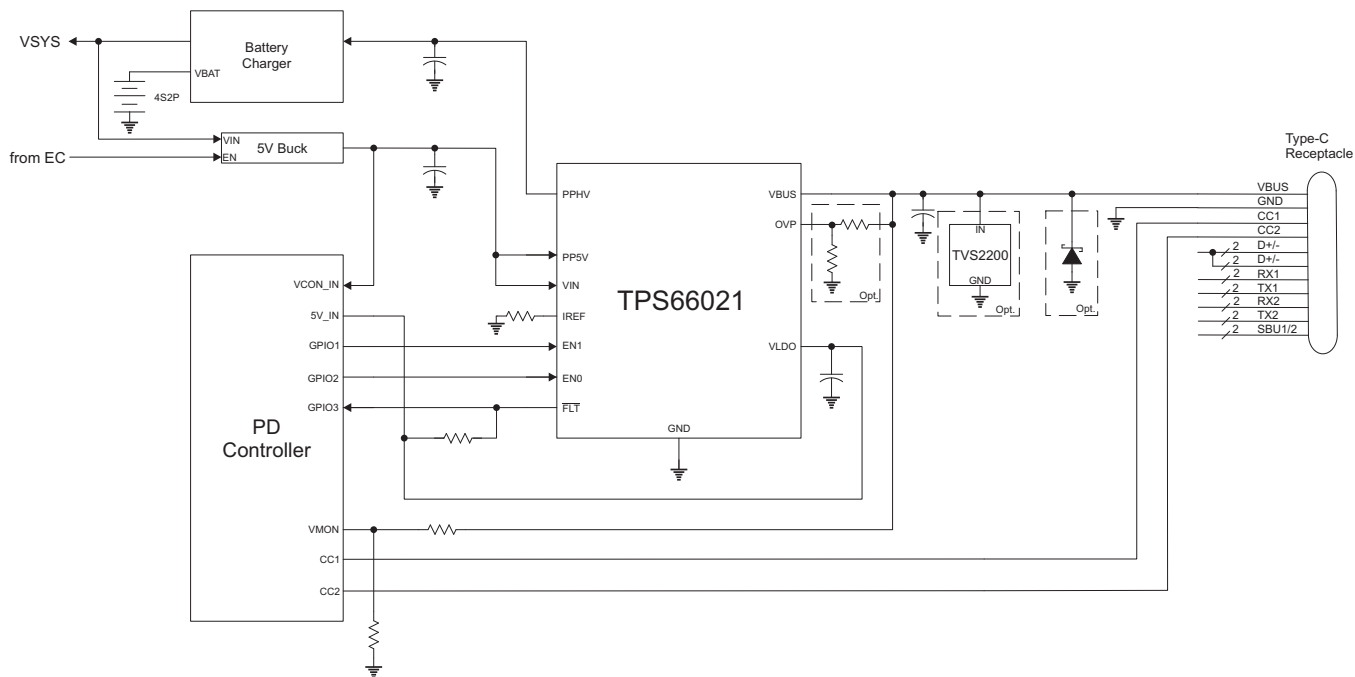
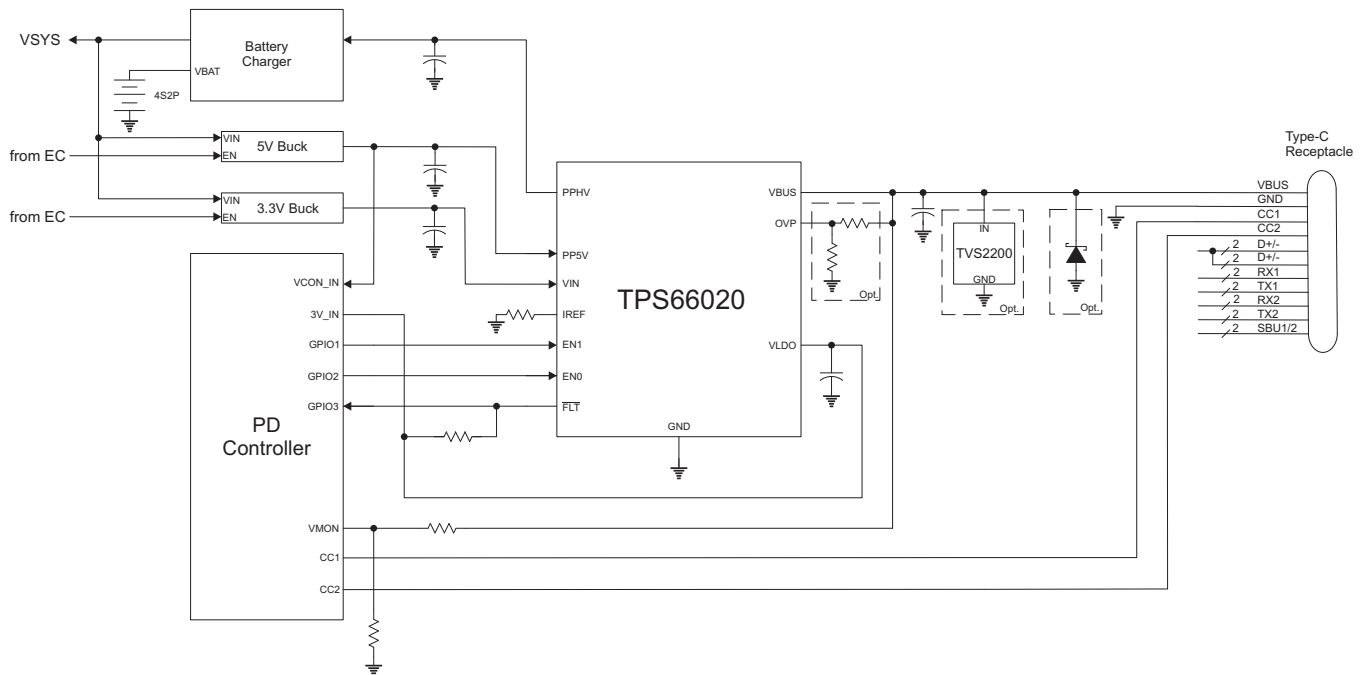

图 28. Single Port Type-C PD Port Using a Single 5-V Supply
图 29. Single Port Type-C PD Port Using a 3.3-V Supply
图 28 shows a USB Type-C single port design using a Power Delivery (PD) controller that supports 5-V operation. For this system, a single 5-V supply is used to supply power to the PP5V and VIN supplies of the TPS66021, as well as, the connector power, VCONN. The TPS66021 supplies power to the 5-V supply of the PD controller via its VLDO output which is sourced either from the integrated 5-V VBUS LDO for dead battery condition or from VIN once the dead battery condition ends.
Similarly, 图 29 shows a USB Type-C single port design using a PD controller that only supports 3.3-V operation. In this case, a separate 3.3-V supply in the system is used to supply power to the TPS66020. The TPS66020 supplies power to the 3.3-V supply of the PD controller via its VLDO output which is sourced either from the integrated 3.3-V VBUS LDO for dead battery condition or from VIN once the dead battery condition ends.
The PPHV power path is a Sink. The capacitance on the PPHV shown in 图 29 represents capacitance of the charger sub-system. In a typical application, this capacitance can be in the range of 47  $\mu\text{F}$  up to 100  $\mu\text{F}$ , far exceeding the 1- $\mu\text{F}$  minimum specification for the TPS6602x, so no external capacitance is required to meet this requirement in most cases. As per the PD Specification, the total capacitance on VBUS should be maximum 10  $\mu\text{F}$  at connection.
The TPS6602x integrates a high-voltage VBUS LDO that can be used to supply power to a PD Controller and other supporting circuitry when only VBUS power is available, such as in a dead battery condition. As shown in 图 29, the TPS66020 VLDO output supplies power to the PD Controller's 3V\_IN supply. Similarly, 图 28 shows the TPS66021 VLDO output supplies power to the PD Controller's 5V\_IN supply. During a dead battery condition, the PD Controller presents its Type-C RPD pull-downs on the CC1 and CC2 lines. Upon connection to a Type-C/PD Source, 5 V is provided to VBUS from the Source partner which powers the TPS6602x. The VBUS LDO is enabled and provides power to the PD Controller. Once powered, the PD Controller can decide to enable the TPS6602x PPHV Sink path by asserting EN0 high and use the 5-V VBUS to charge the battery or it may choose to negotiate a higher voltage contract first. Either way, once the contract is negotiated, the PD Controller will enable the PPHV Sink path and charge the system. Once the system is sufficiently charged, the VIN terminal will rise and will exceed the VIN UVLO threshold. If VIN remains above the UVLO threshold for  $t_{VIN\_STABLE}$ , VLDO will be supplied from VIN and the VBUS LDO will be disabled.